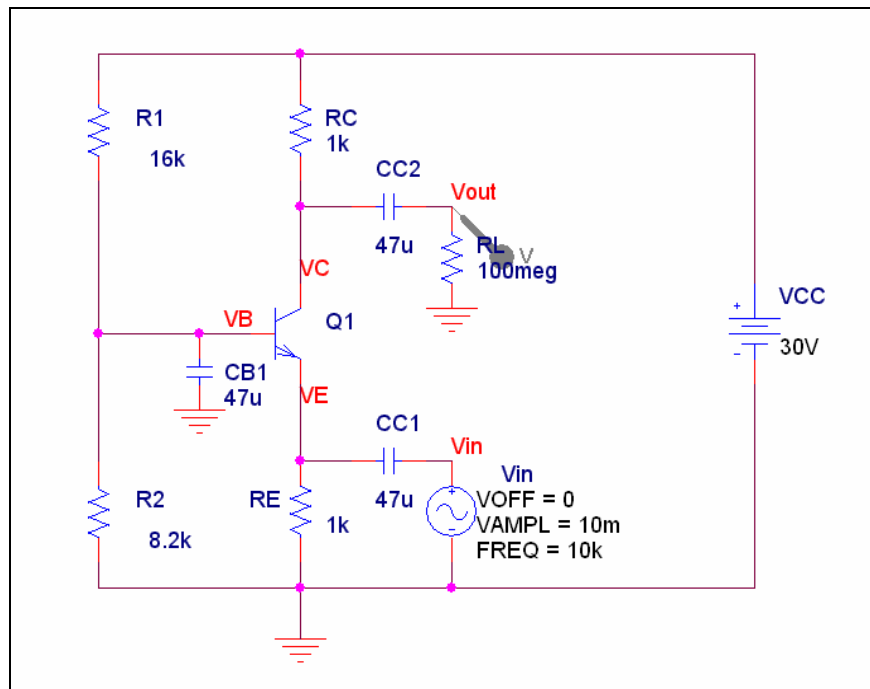

Figure P.4 – Common Base Amplifier
6. Alter the circuit constructed above to match the circuit shown in figure P.4. This is known as a Common-Base configuration. Apply a small input signal (10mV @10kHz) to the emitter of the transistor, as shown in figure P.4.
- Construct circuit in figure P.4 in using transistor: 2N3904